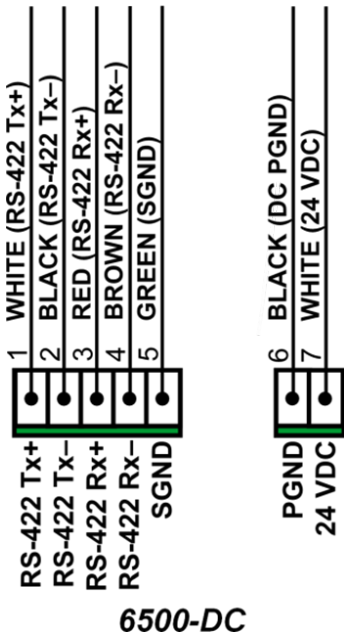

Figure 6. Summary of Model 6500-DC Connections
1. Connect the power and signal wires to the terminal blocks inside the enclosure according to Figure 6.